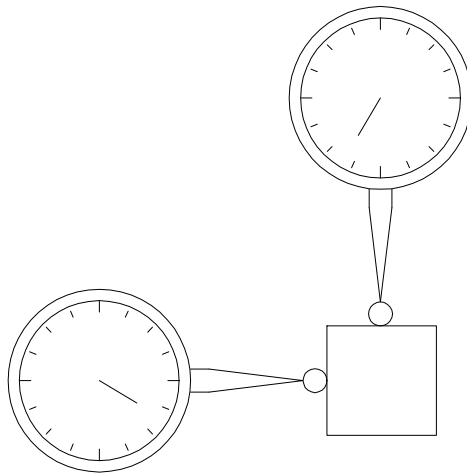

FIG. 6-1C
2. FIX 2 SETS OF DIAL GAUGE ON WORK TABLE (AS FIG. 6-1C), CHECK IF THERE IS ANY DEVIATION BY MOVING THE Z AXIS UP-DOWN ARROWKEY OF MANUAL CONTROL PANEL. YOU CAN CHECK THE VERTICALITY BETWEEN ELECTRODE AND WORK TABLE FROM THE DEVIATION AND ADJUST THE 4 SCREWS B TO SUITABLE VERTICALITY.